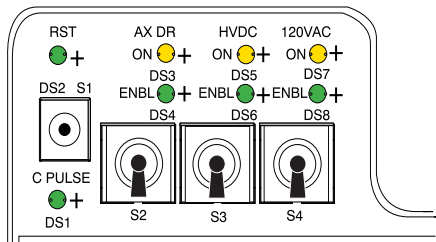

Figure 42 - STC Backplane Service Switches
- **ENSURE THAT THE DRIVE STATUS LED (Figure 42) IS NOT LIT. DO NOT SERVICE THE GANTRY IF THIS LED IS ON.**